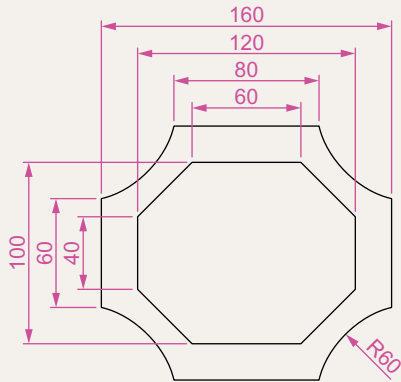

Fig. 3.52 Exercise 9
9. Construct the drawing Fig. 3.52 using the **Line** and **Arc** tools. Then, with the aid of the **Multiple** prompt of the **Edit Polyline** tool, change the outlines into plines of **Width=1**.